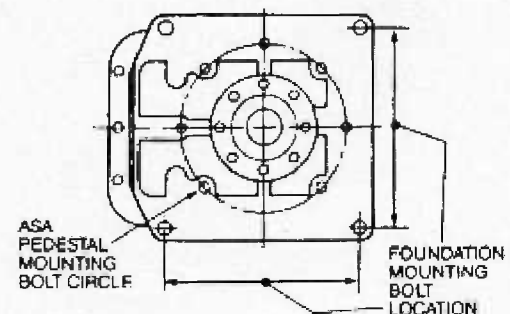

Figure 3 — Mounting features
MOUNTING OPTIONS: HGD models including those fitted for stub-shaft connection, may be rail, pedestal or tank flanged mounted. The mounting-bolt foot-print in the housing base is square to permit 90° variations in positioning; the underside of the base has also been drilled and tapped for mounting to a standard ASA flange* (see Fig. 3).
- While operating, there's random fluid motion in the vessel that exerts great forces on the extension shaft of the mixer. The mixer accommodates these forces since they are transmitted directly to the support mountings. Therefore, the mounting system must be rigid. It must support dead mixer weight as well as live mixer reactions that result from Torque and Bending Moment (see Figure 3). It is not enough to design the support system for acceptable levels of stress. It must be rigid enough to take care of start-up torque load and preclude large deflections which may result in mixer vibration.